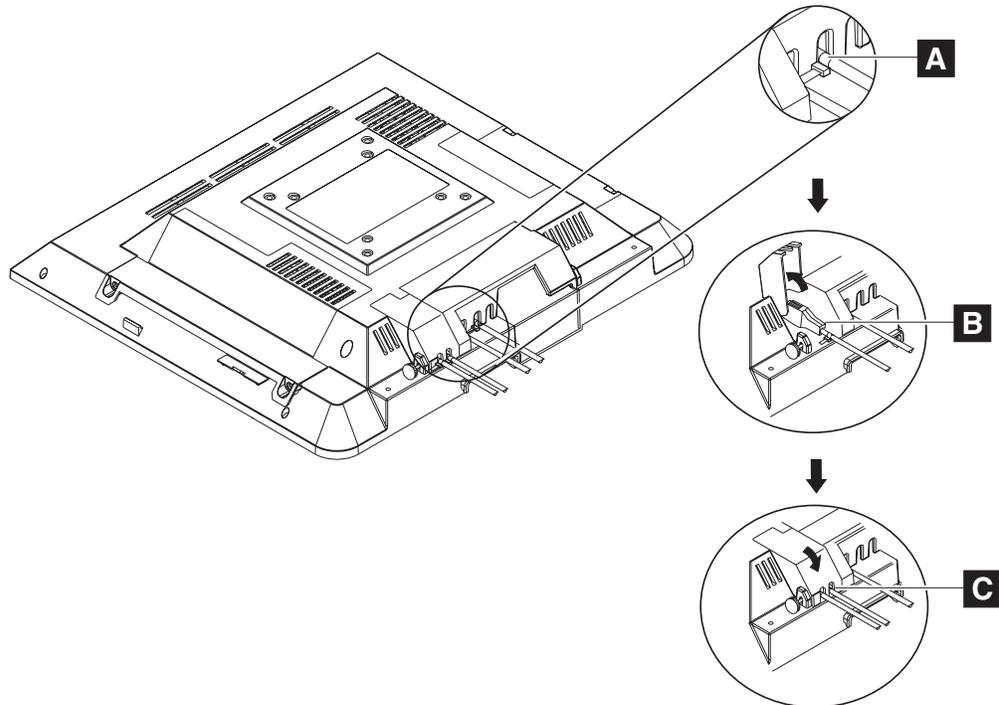

Figure 4. Retaining the cables using cable ties
The RS-232 cable is retained to the system unit with screws. The Ethernet cable is retained by a snap on the connector. When closed, the cable cover retains the power cable. See Figure 4.
2. Install the cable ties to the cable just outside the cable cover as shown in **A** in Figure 4.
3. Open the cable covers (**B** in Figure 4).
5. Close and secure the cable covers with the cable ties inside of the covers (**C** in Figure 4).